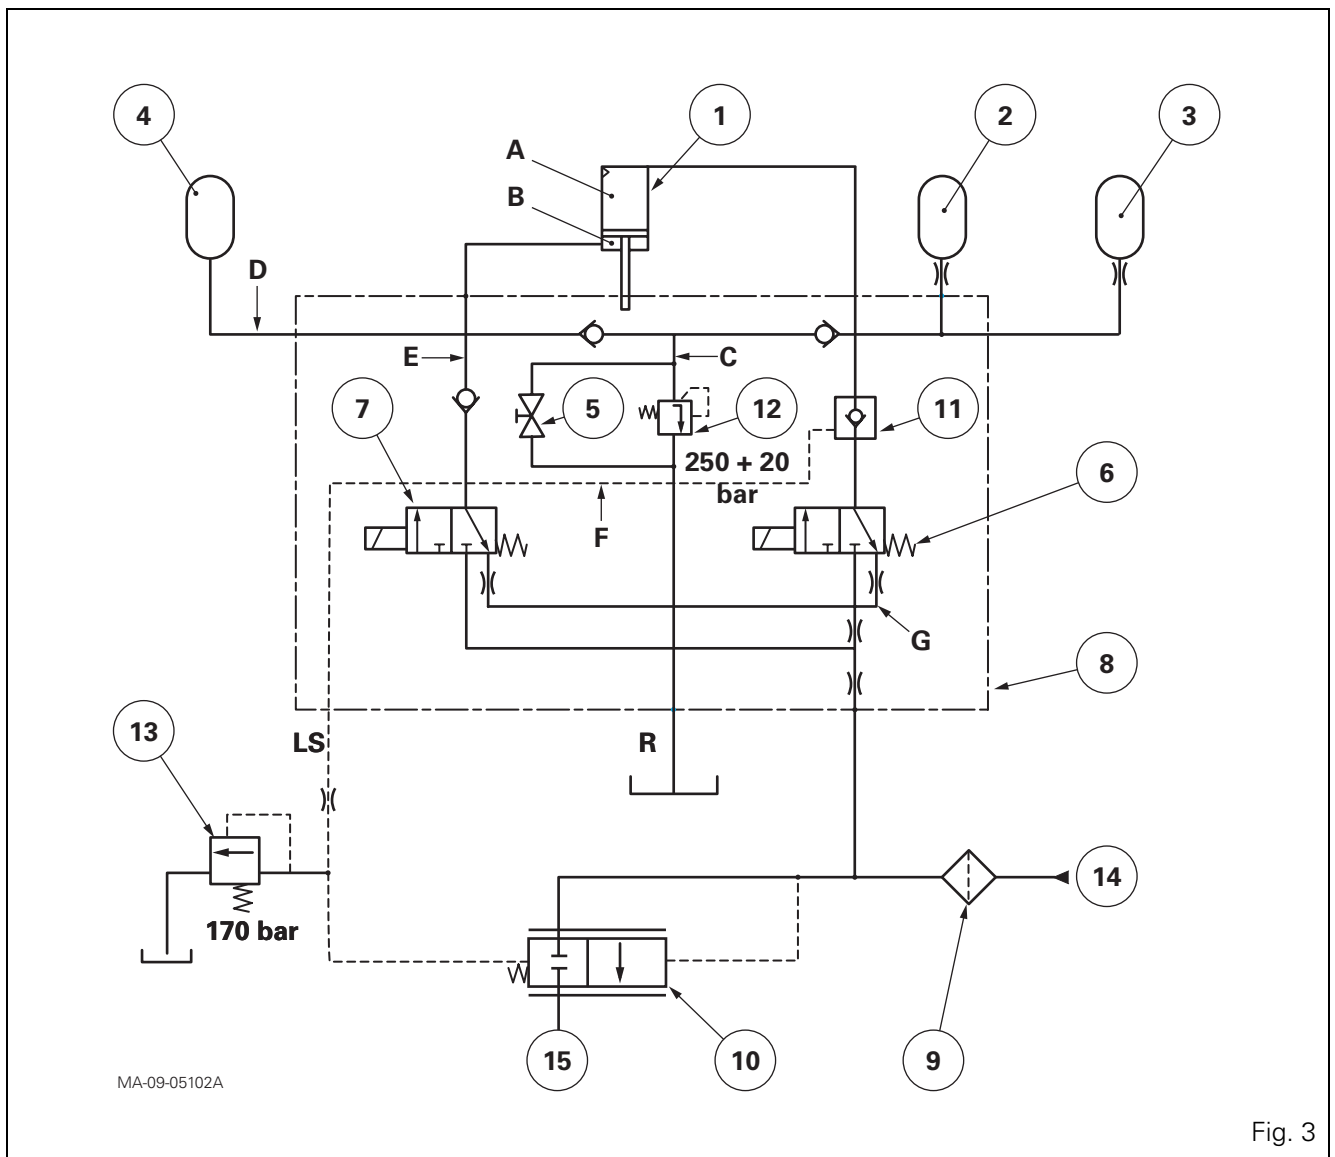

Fig. 3
Parts list (Fig. 3, Fig. 4 and Fig. 5)
In high position (Fig. 3), the ram is balanced by accumulators (2), (3) and (4).